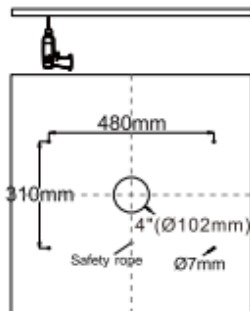

Figure 3
3. Drill the installation hole accordingly on the ceiling. [Figure 3]